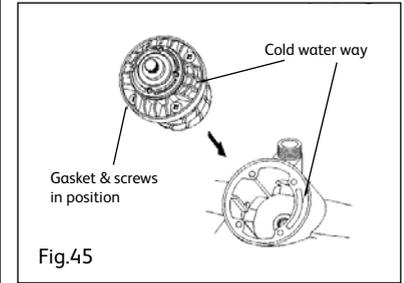

Fig.45
- Offer the cartridge up to the body after checking that the waterway in the rear of the cartridge is in alignment with the waterway, which is situated in the face of the body (Fig 45).